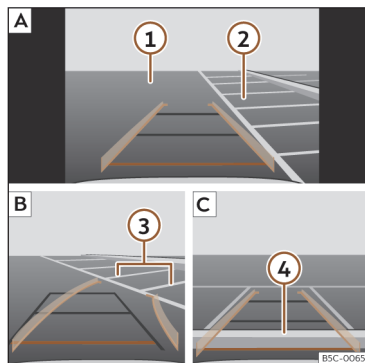

Fig. 190 Display on the Infotainment system screen.: parking with reverse assist.
Key to the **Fig. 190**:
- Place the vehicle in front of the parking space >>> **Fig. 190 ② | A**.
- Reverse while turning the steering wheel so that the yellow lines enter the parking space. The green and yellow lines must match the side boundary lines **③ | B**.
- Stop the vehicle when the red line has reached the rear boundary **④ | C**.